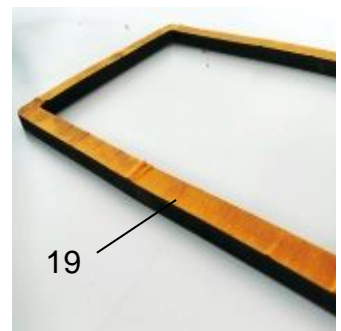

Fig. 11
- The seal can be purchased from the manufacturer. Remove protective strip (19) and apply new seal (Fig. 11). Check adhesion. If necessary, stick with adhesive.